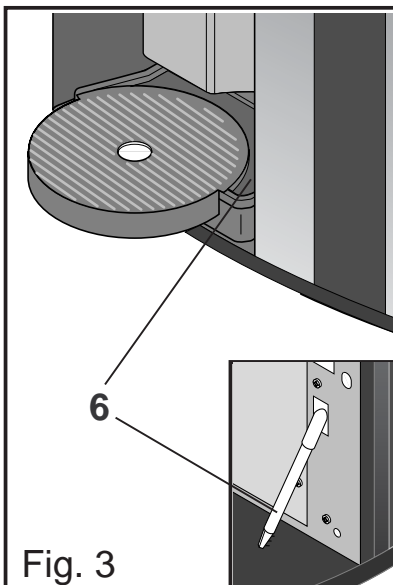

Fig. 3
- Clean the cup carrier and the area around the cup carrier at the inner door by means of a damp cloth. (Fig. 3)